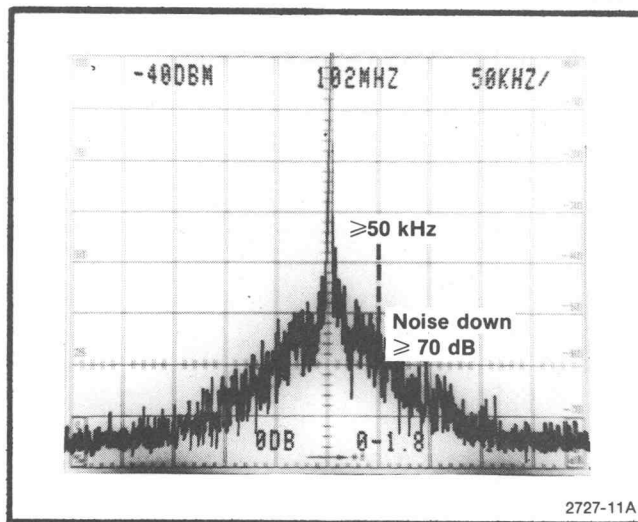

Fig. 3-16. Typical display of phase lock noise.
d. Increase REF LEVEL 20 dB to position the signal peak 20 dB above the reference line. Check the amplitude of noise sidebands 50 kHz away from the signal (Fig. 3-16). Phase lock noise sidebands should be 70 dB or more down from the signal level or 50 dB below the top of the screen.